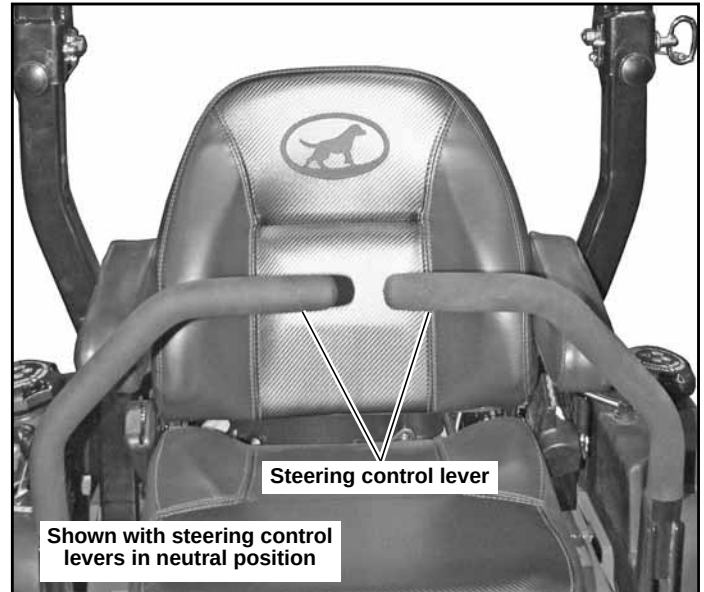

Figure 4-13
2. Position the control lever in the neutral position. Disengage the deck clutch switch, located on the control panel. Figure 4-13